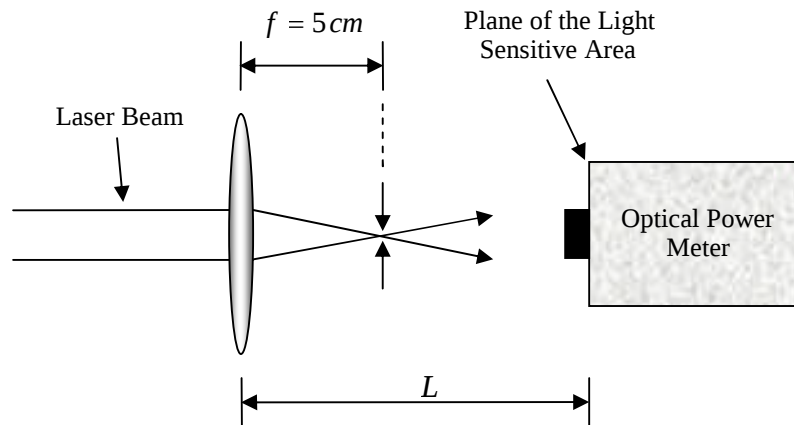

Figure 3: Arrangement Used to Measure The Total Power of the HeNe Laser Source.
- 3- Measure the *total power* emitted by the laser source. Because the sensor of the power meter has a smaller area than the laser beam, you need to first *partially focus* the laser light into the light sensitive area of the power meter. *Do not overly focus the light into the light sensitive area of the meter, because this causes sensor saturation and leads to meter readings that are less than the actual power.* To measure the total power emitted by the laser, use the following procedure (Refer to Figure 3):